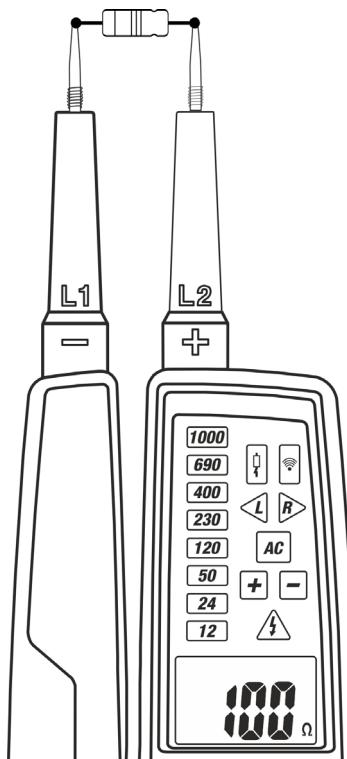

Fig. 10: Resistance measurement
3. Connect the **L1** and **L2** probes to the object under test (see Fig.10). The resistance value is shown at display